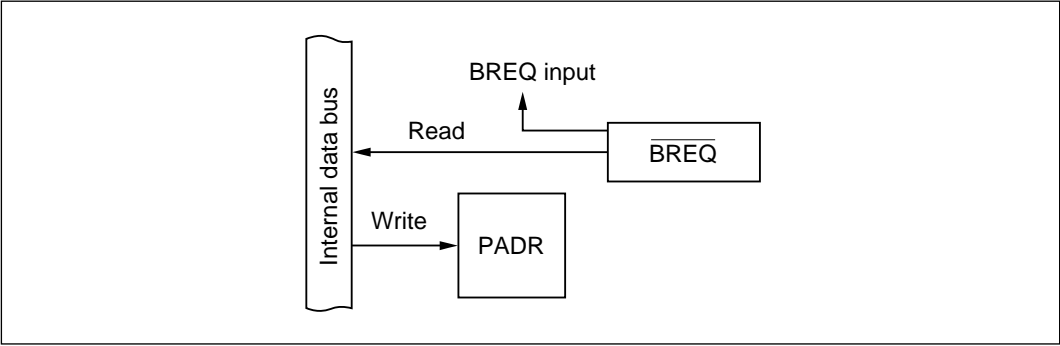

Figure 9-63 BREQ Input Pin (Modes 1 to 6)
(3) **BREQ Pin (PA₅: Modes 1 to 6):** Figure 9-63 shows a block diagram illustrating the BREQ function. Table 9-46 indicates register read/write data. When PA₅ is used for BREQ input, the value written in the port A data register (PADR) has no effect. When read, PADR returns the level of the BREQ signal.